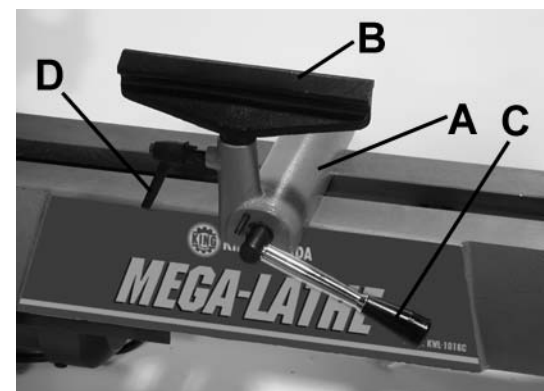

FIGURE 9
The tool rest base (A) Fig.9 and the tool rest (B) can be moved along the lathe bedway to any desired position between the centers. To move the tool rest base, lift locking lever (C) and slide the tool rest base. Once in position lower the locking lever to lock the tool rest base in place.